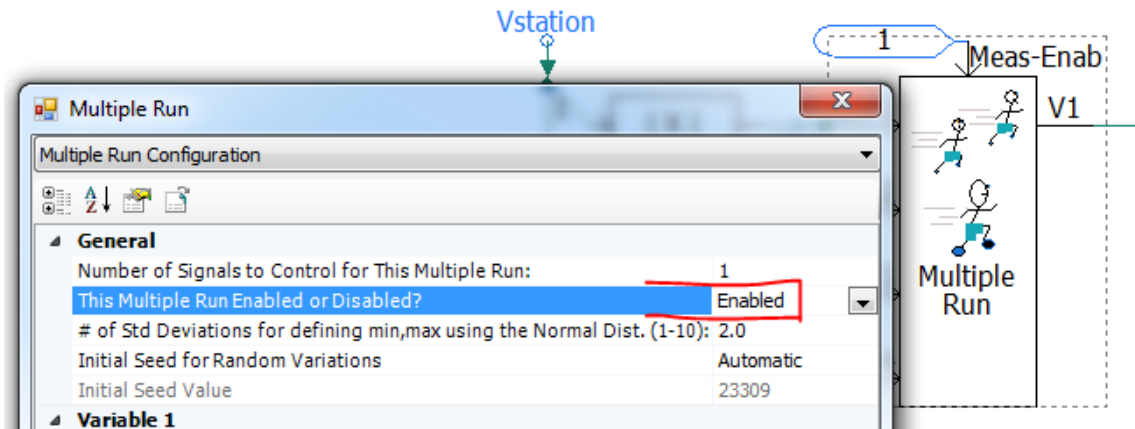

Figure 8: Enabling the Multi-run Component
- Enable the Multiple-run Component (Figure 8).